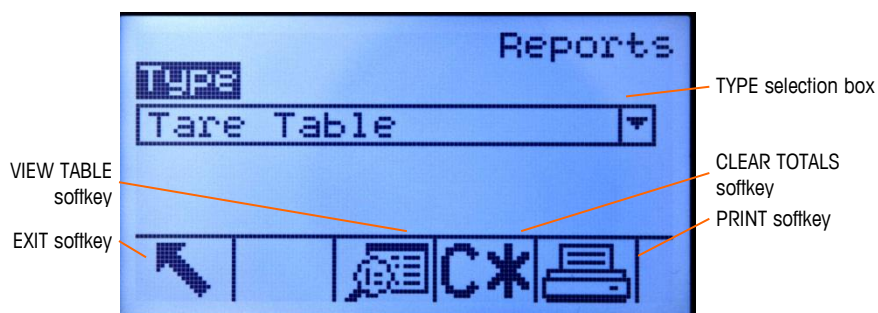

Figure 2-21: Reports Screen
1. Press the REPORTS softkey . The Reports screen (Figure 2-21) displays.